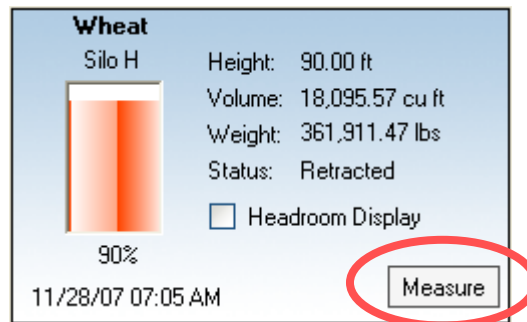

Figure 6
6. Measure vessels by using the Measure button (Figure 6) on the main vessel display or measure all of the vessels in the system using the Vessel | Measure All menu item.